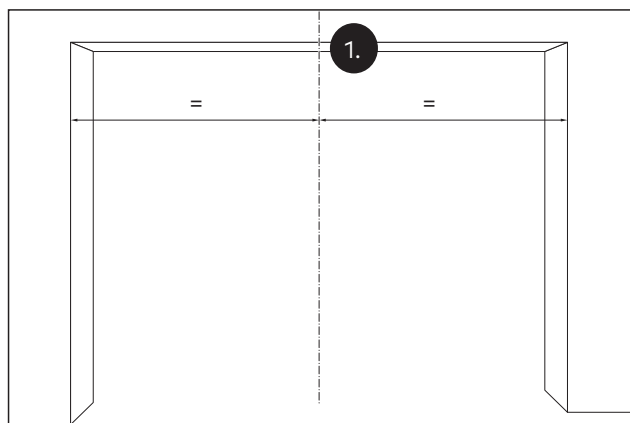

Fig. 13 Marking the center of the doorway
1. Mark the center of the doorway on the wall (Fig. 13).